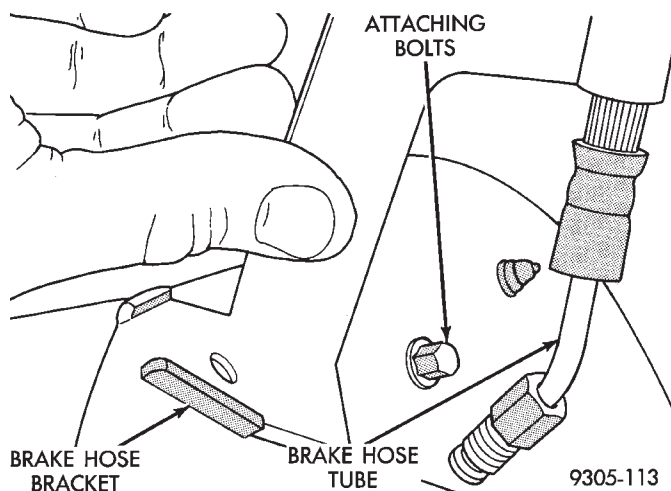

Fig. 14 Brake Hose Bracket And Tube Nut
(7) If vehicle is equipped with rear drum brakes install rear brake flex hose onto wheel cylinder and support plate (Fig. 14). Torque the brake hose to wheel cylinder tube nut to 17 N•m (145 in. lbs.). Torque the brake hose bracket to support plate bolt to 8 N•m (75 in. lbs.).